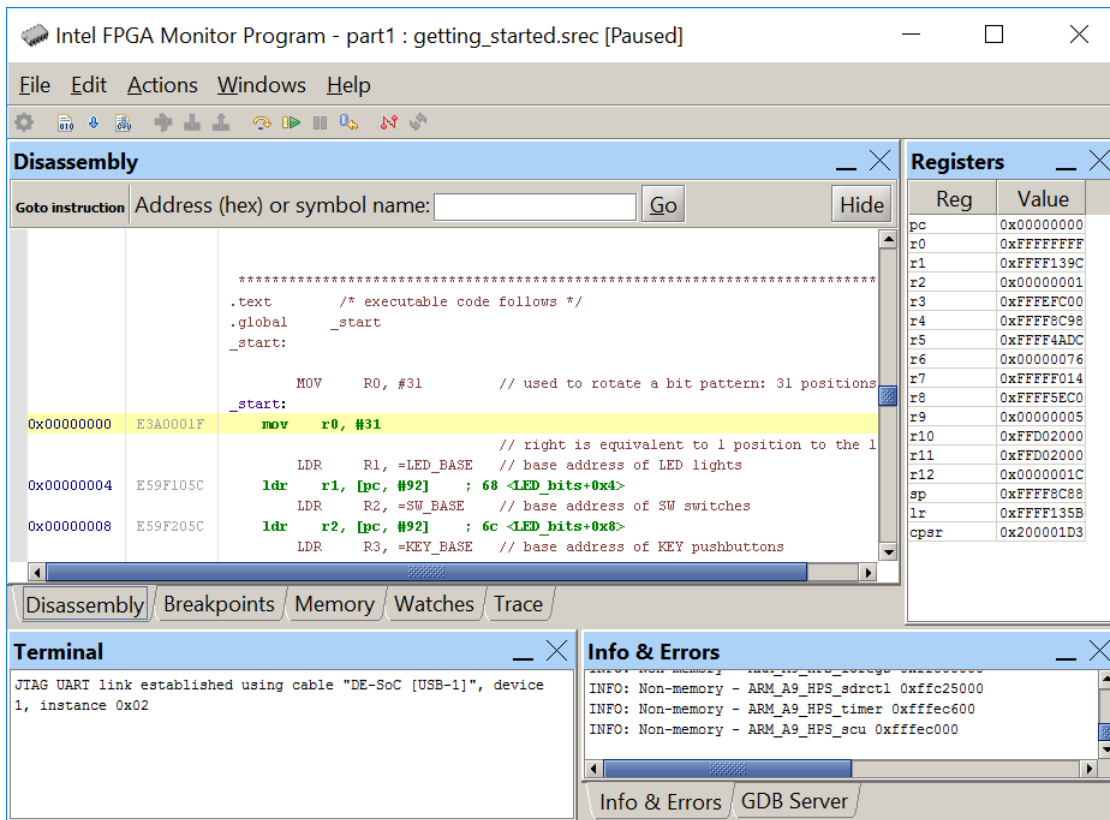

Figure 19: The monitor window showing the loaded sample program.
9. Having downloaded the computer system into the FPGA SoC chip on your DE1-SoC board, we can now load and run the sample program. In the main Monitor Program window, shown in Figure 19, select **Actions > Compile & Load** to assemble the program and load it into the memory on the board. Figure 19 shows the Monitor Program window after the sample program has been loaded.